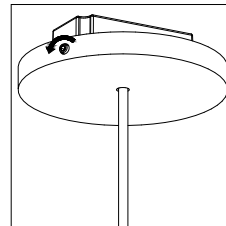

Figure 1: Canopy Removal
1. Loosen and lower canopy cover by turning the lock screw located at the base of the canopy counter-clockwise. [Figure 1]
1. Loosen and lower canopy cover by turning the set screw located at the base of the canopy counter-clockwise. [Figure 1]